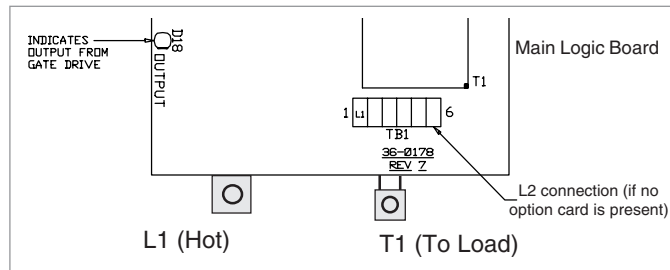

Figure 4 - Power Connection (no option card)
1. Connect line 1 and supply side of load to power terminals. See figure 4 below.
2. Connect line 2 (using 18-22 gauge wire) to terminal 6 on TB1(EPCL1000). If option is present, connect line 2 to terminal 7 of TB2 on option board. See figure 4 and 5 below.